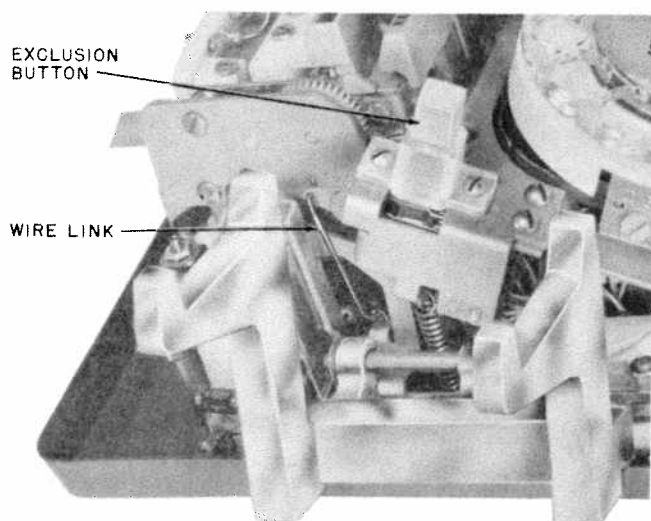

Fig. 5—Exclusion Switch Assembly
- (1) Remove housing and 8C dial.
- (2) Attach exclusion switch assembly to dial adapter with two screws provided (Fig. 5).
- (3) Dress exclusion switch leads along left side of 41-type dial and between control relay and switch hook assembly so that terminal board is in position at rear of set.
- (4) Connect wire link to exclusion switch assembly by placing end of wire link having two 90 degree bends into hole provided in switch assembly (Fig. 5). Start wire link from left side of assembly.
- (1) Remove dial as shown in 4.06.
- (2) Disconnect spade-tipped dial leads.
(3) Loosen two screws holding dial to adapter and remove dial.
(4) Secure replacement dial on adapter making sure that dial is properly positioned.
(5) Connect dial leads.
(6) On sets with exclusion, start wire link from exclusion switch into hole on switch hook assembly (Fig. 5).
(7) Slide slots of dial adapter under dial mounting screws.